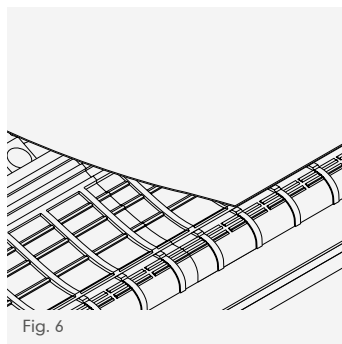

Fig. 6
- 7 Lay the underlay over the support tray stopped approx. 25mm from the top of the front edge of the felt support tray (Fig 6, page 131).